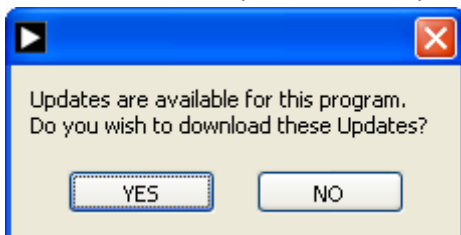
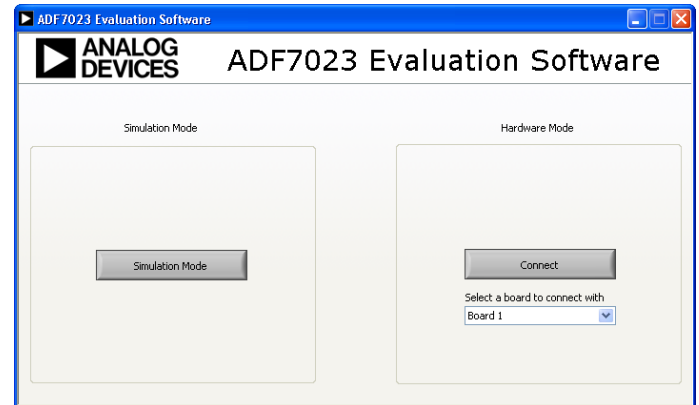

Figure 5
Figure 6
3. The ADF7023 start screen will appear once the program is opened (Figure 6). If the PC is connected to the internet, the program will automatically check for updates. If an update to the software exists, the user will have the option to install the updates by clicking **"YES"** or to ignore by clicking **"NO"** (Figure 5). It is however recommended that you install all updates.
4. The main screen gives the user, the option to open the software in Simulation mode or, if the board is plugged into the PC, **"Hardware Mode"** becomes available (Figure 6).